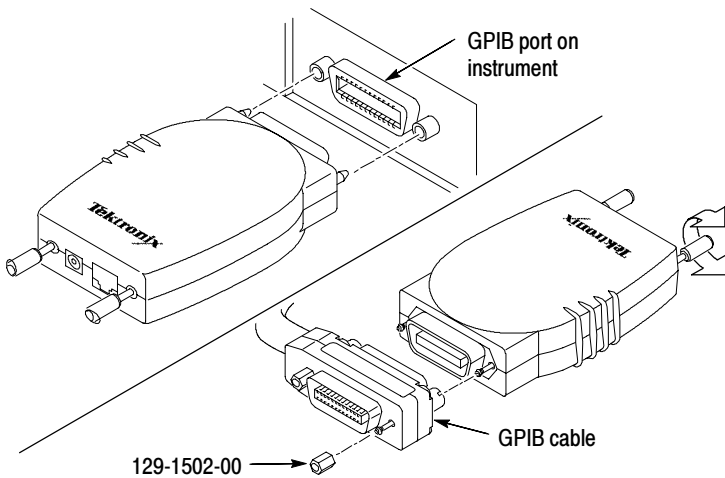

Figure 8: Connecting to the GPIB
1. Connect the GPIB port of the adapter to the GPIB port(s) or connector(s) for the instrument(s) that you wish to control. If necessary, use the GPIB connector hardware provided. (See Figure 8.)